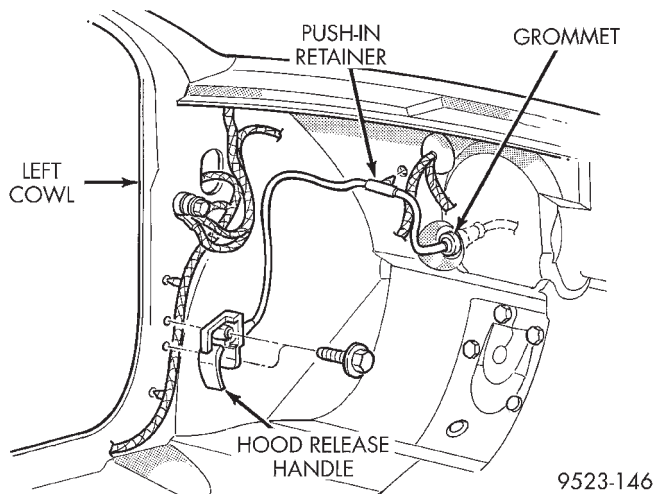

Fig. 19 Hood Release Cable
- (1) Remove hood latch.
- (2) Disconnect release cable from hood latch.
- (3) Disengage cable from clips holding cable to radiator closure panel.
- (4) Route cable rearward through engine compartment toward dash panel.
- (5) Remove left front cowl trim panel.
- (6) Remove screws holding hood release handle to cowl panel (Fig. 19).
- (7) Disengage rubber grommet from dash panel behind instrument panel.
- (8) Disengage push-in retainer holding cable to dash panel behind clutch/brake pedal.
- (9) Pull release cable through hole in dash panel.
- (10) Separate cable and handle from vehicle.